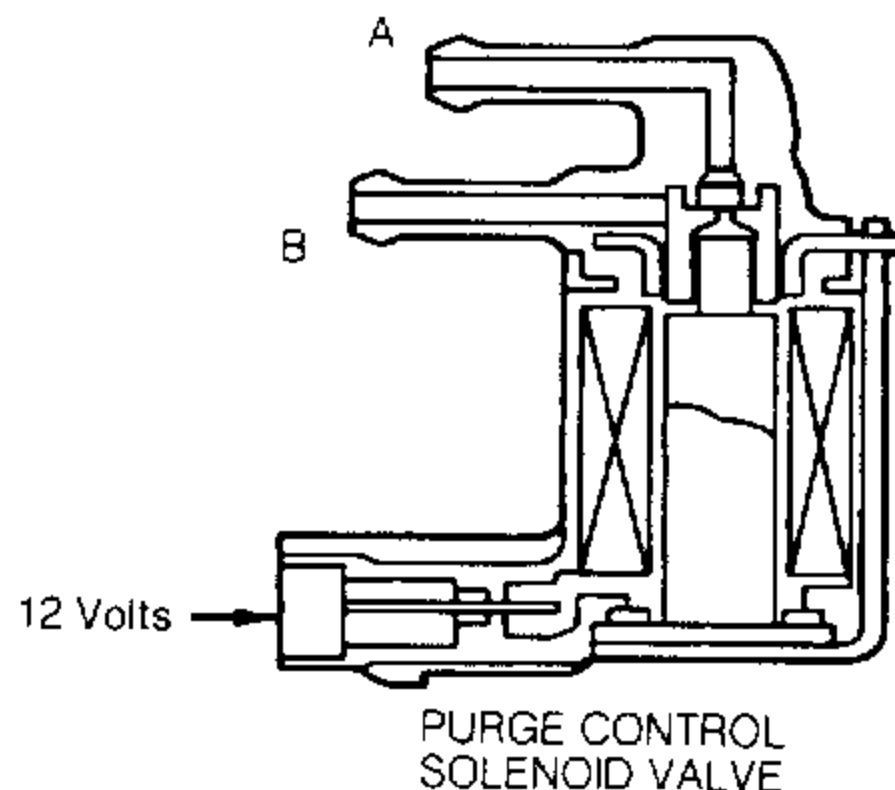

Fig. 1: Testing Canister Purge Solenoid
1. Disconnect vacuum hoses from solenoid. See Fig. 1. Blow through port "A". Ensure no air exhausts from port "B".